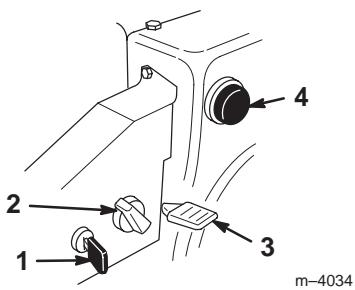

Figure 15
- **Ignition Switch** (Fig. 15)—Insert the key before starting the engine. To stop the engine, remove the key.
- **Choke** (Fig. 15)—Rotate the choke clockwise to the *On* position to start a cold engine. As engine warms up, gradually rotate the choke counterclockwise to the *Off* position.
- **Throttle** (Fig. 15)—Move the throttle upward to increase the engine speed; move it downward to decrease the engine speed. Move the throttle to the *Stop* position to stop the engine.
- **Primer** (Fig. 15)—Press the primer to pump a small amount of gasoline into the engine for improved cold-weather starting.
2. Remove the key from the ignition switch (Fig. 15).
3. Pull the choke knob off (Fig. 15).
5. Rotate the choke (Fig. 15) to the *On* position.
6. Insert the ignition key (Fig. 15).
7. Cover the hole in the center of the primer (Fig. 15) with your thumb and push in the primer 3 times, pausing a moment between pushes.
9. After the engine starts, immediately rotate the choke (Fig. 15) to the *3/4* position. As the engine warms up, rotate the choke to the *1/2* position. When the engine warms up sufficiently, rotate the choke to the *Off* position.